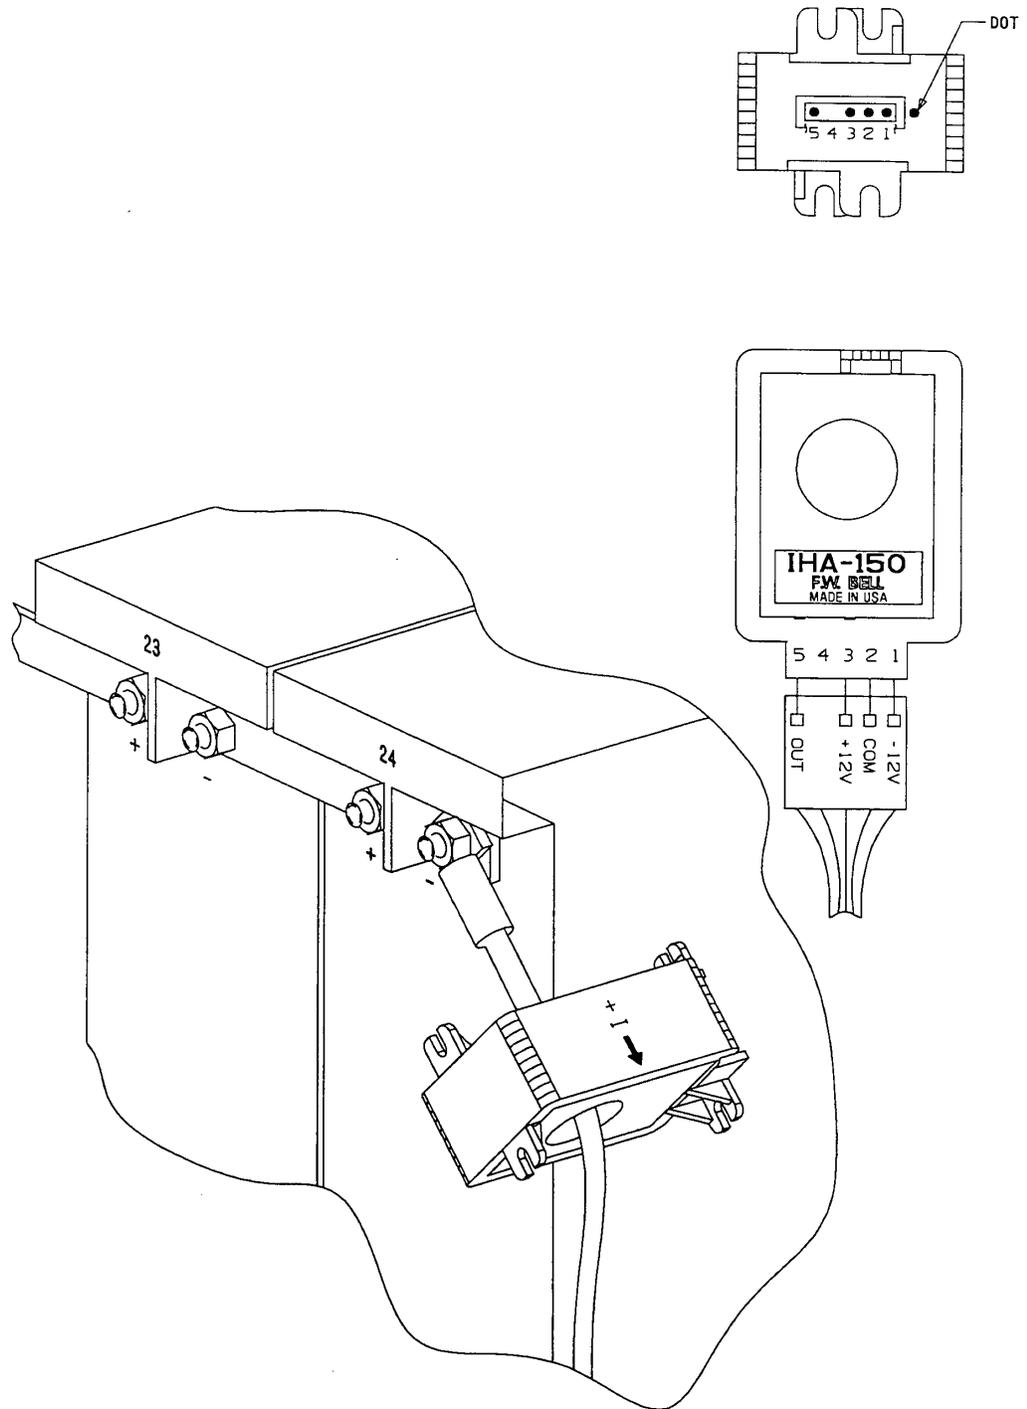

Figure 3-16: Installing Hall-effect Current Sensor
6. Slide the Hall-effect current sensor (CS) onto the 2 AWG wire coming off the negative battery post of cell 23 or 24, depending on the configuration. Be sure the arrow marked on the Hall-effect sensor is pointing away from the negative post (Figure 3-16).
4. Slide the Hall-effect current sensor (CS) onto the 2 AWG wire coming off the negative battery post of cell 23 or 24, depending on the configuration, to the terminal plate before re-torquing the nut on the terminal. Be sure the arrow marked on the Hall-effect sensor is pointing away from the negative battery post (Figure 3-16).
9. Slide the Hall-effect sensor onto the 2AWG wire coming off the negative battery post of cell 23 or 24, depending on the configuration (see Figure 3-15). Be sure the arrow marked on the Hall-effect sensor is pointing away from the negative battery post (see Figure 3-16).